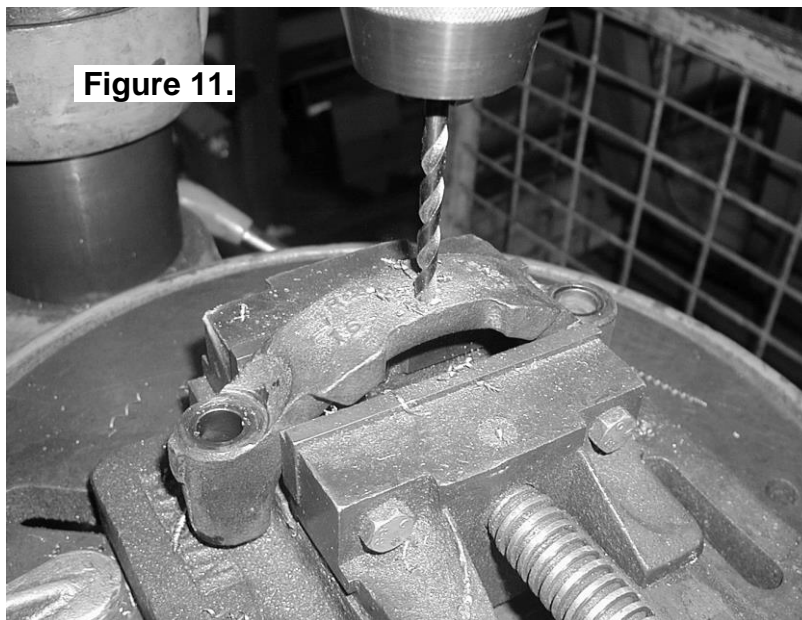

Figure 11.
- Using a pedestal drill, drill a 6.35 [1/4"] hole through the bearing cap where the seal housing tube hole has been marked. (Fig. 11.)